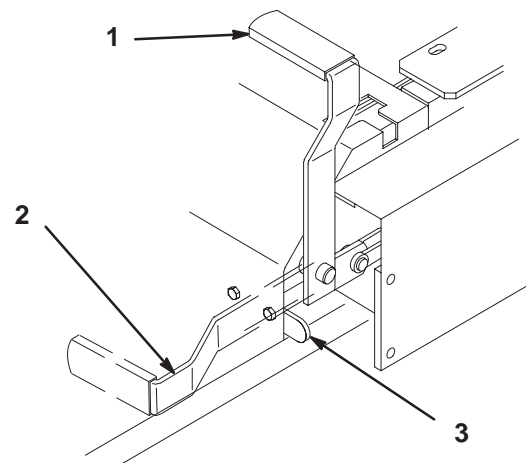

Figure 14
2. Pull back and up on the parking brake lever to set the parking brake (Fig. 14). The parking brake lever should stay firmly in the engaged position.
1. Push forward and down on the parking brake lever to release the parking brake (Fig. 14). The parking brake is disengaged and the lever rests against the brake stop.